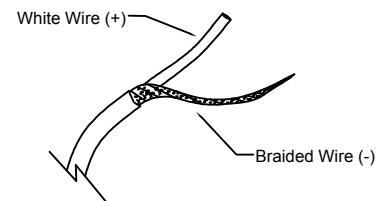

FIGURE-03
4. Separate the two wires and tangle the braided wire. See FIGURE-03.